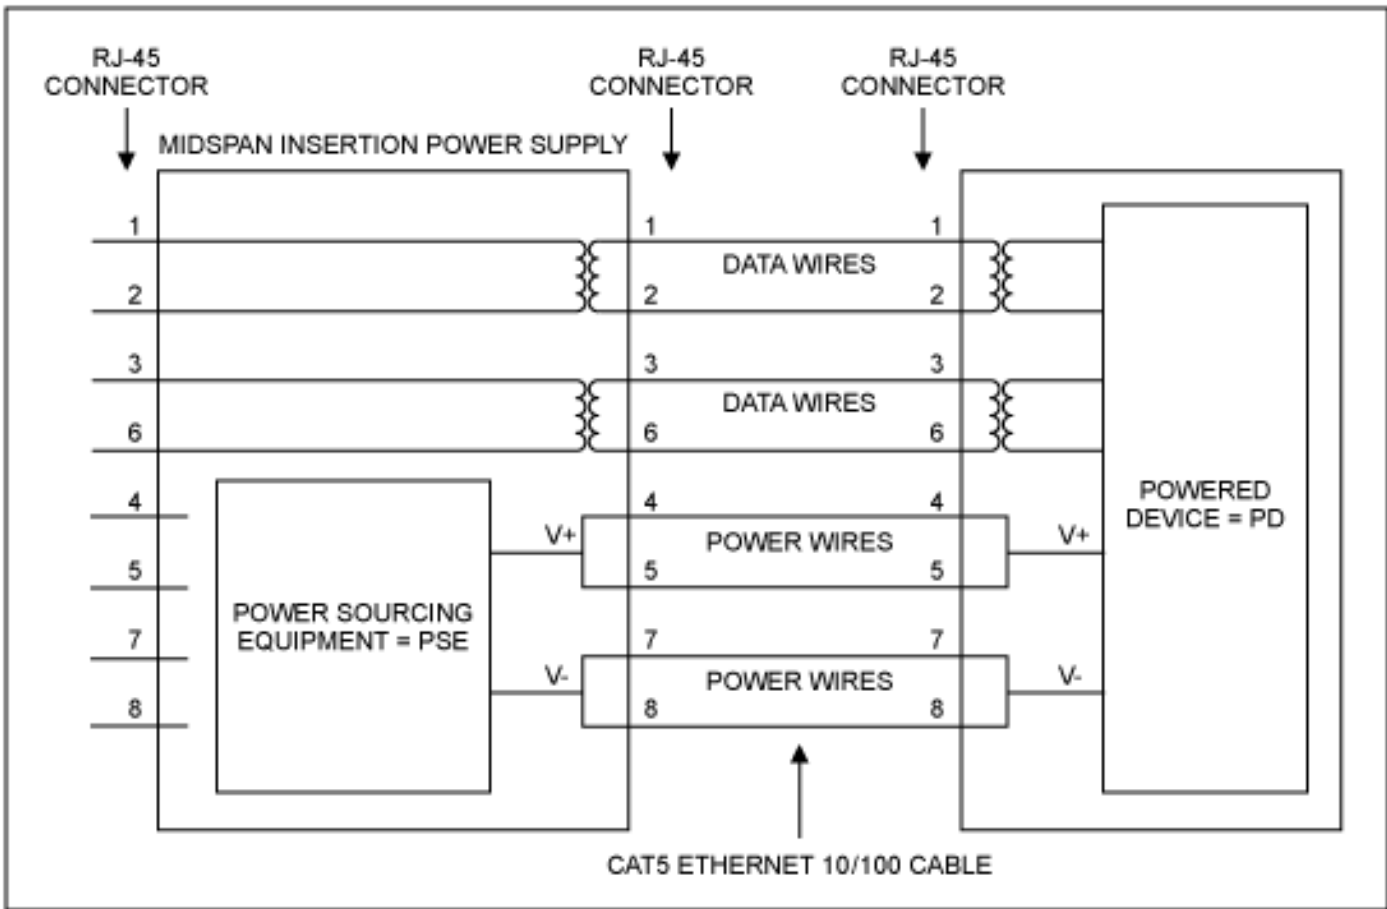

Figure 1. Midspan insertion schematic for PoE.
Figure 1 shows the components of a PoE midspan insertion solution. For Ethernet 10/100, only two of the four available pairs of a CAT5 cable are used for data transmission. Therefore, the remaining two pairs can be used for power distribution. V+ is usually connected to wires 4 and 5, V- to wires 7 and 8. The midspan insertion power supply checks if a powered device (PD) is connected, ramps-up the supply, and monitors the current provided to the PD. In multiport solutions one can also assign priorities to the individual ports. This will ensure that the highest priority ports are always powered, while other ports can be switched off if the available power is insufficient.